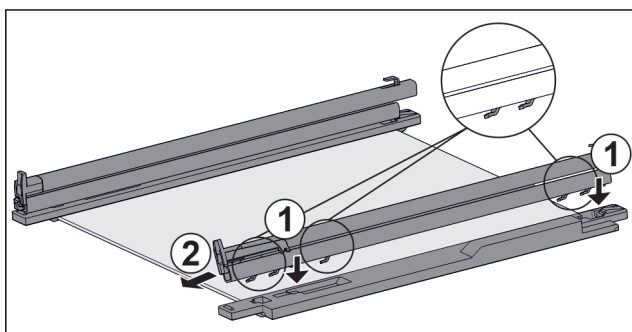

Fig. 137 Glass shelf with rails and retaining parts
- Place rail hooks onto the openings of the **left** retaining part. Fig. 137 (1)
- Push rail forwards. Fig. 137 (2)
- Place rail hooks onto the openings of the **right** retaining part. Fig. 137 (1)